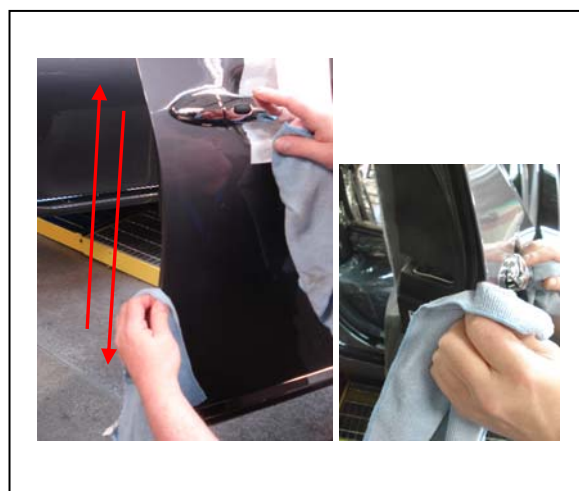

Fig. 1-2
- ii. Using the second lint free cloth, thoroughly dry the area free of Simple Green cleaner previously applied. In some instances a rubber weather seal may be found – ensure to clean between the trailing edge and rubber seal. (Fig. 1-2) Turn the cloth repeatedly to attain a dry surface.